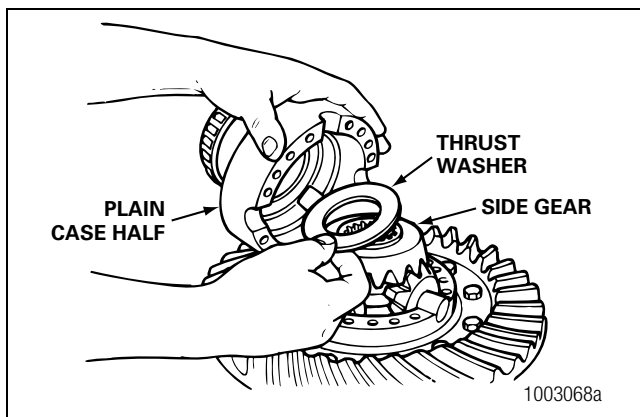
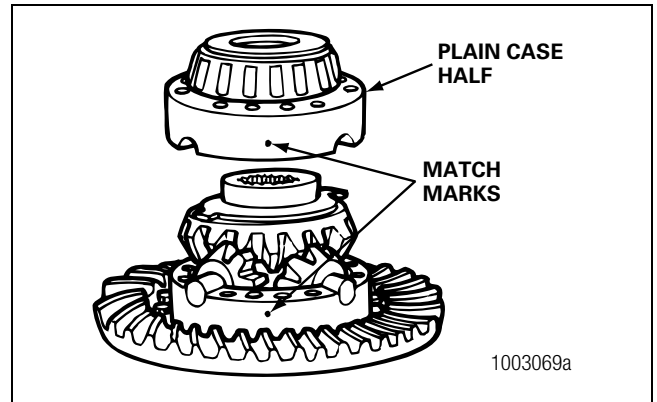

Figure 5.18
Figure 5.19
12. Install the second side gear and thrust washer over the spider and differential pinions. Figure 5.18.
13. Place the plain half of the differential case over the flange half and gears. Rotate the plain half as needed to align the match marks. Figure 5.18 and Figure 5.19.